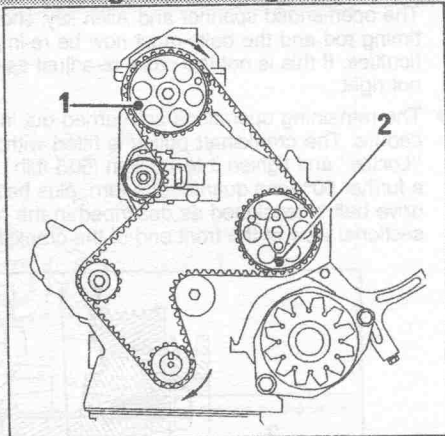

Fig. 1.56. — Details for the removal and installation of the timing belt. Insert the 8 mm bolts at positions (1) and (2).
Insert one of the bolts at position (1) in Fig. 1.56 into the camshaft timing gearwheel and another one at positions (2) into the injection pump drive gear. Screw the bolts into the threads behind the respective gearwheel. The timing mechanism is now locked in position.
- Obtain the 8 mm x 40 mm bolts, mentioned above. Insert one of the bolts at position (1) in Fig. 1.56 into the camshaft timing gearwheel and another one at positions (2) into the injection pump drive gear. Screw the bolts into the threads behind the respective gearwheel. The timing mechanism is now locked in position.